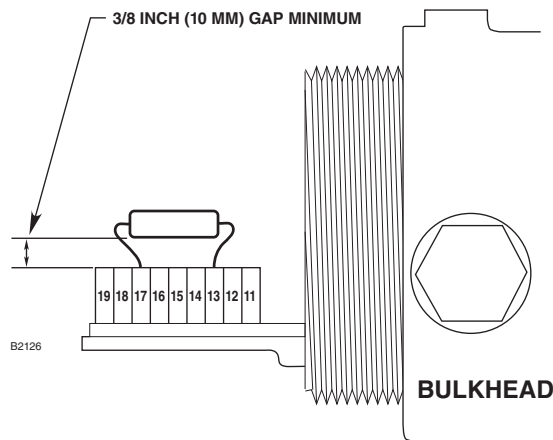

Figure 14—Resistor Installation (For Ex d Wiring Only)
Figure 14 shows an EOL resistor installed within the integral wiring compartment of the detector (refer to "EOL, Fire and Fault Resistors" for details).
3. Bend the leads and install the resistors as shown in Figure 14.